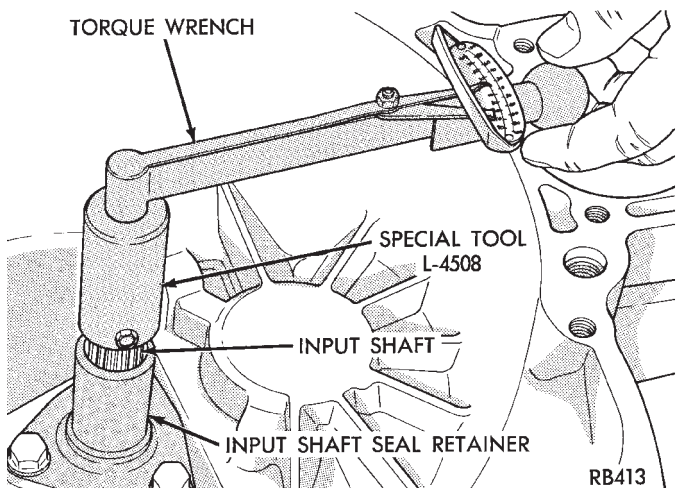

Fig. 2 Checking Input Shaft Bearing Turning Torque
(8) To verify that a preload condition does not exist, use Special Tool L-4508 and an inch-pound torque wrench to check input shaft turning torque (Fig. 2). **The turning torque should be less than 5 in. lbs.**